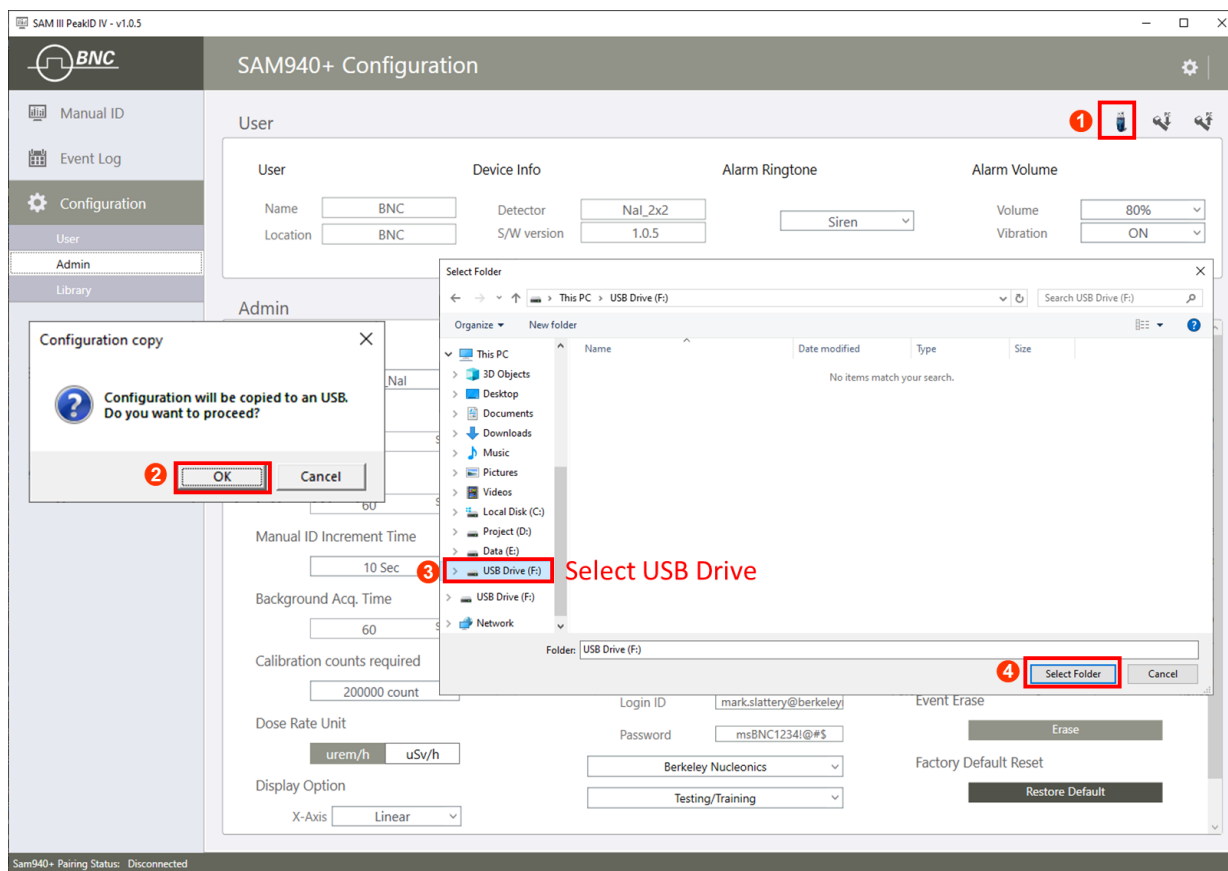

Figure 7.9.2. Copy configuration to an USB device.
2. Select USB device icon ①
3. Confirmation message will be appeared as shown in figure 7.9.2. Click OK.